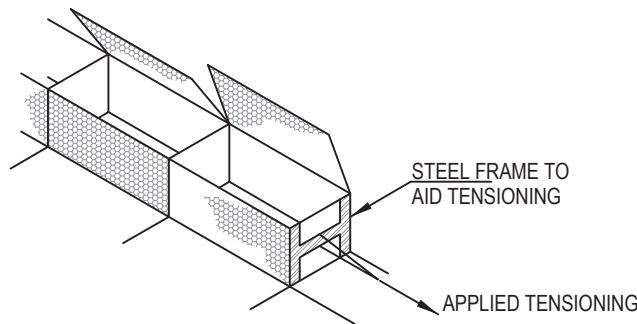

FIGURE 6
5. TENSION THE UNITS LONGITUDINALLY USING A FENCING WIRE TENSIONER. THE GABIONS SHOULD REMAIN IN TENSION DURING FILLING TO ENSURE GOOD ALLIGNMNET AND FINISH. (FIGURE 6)